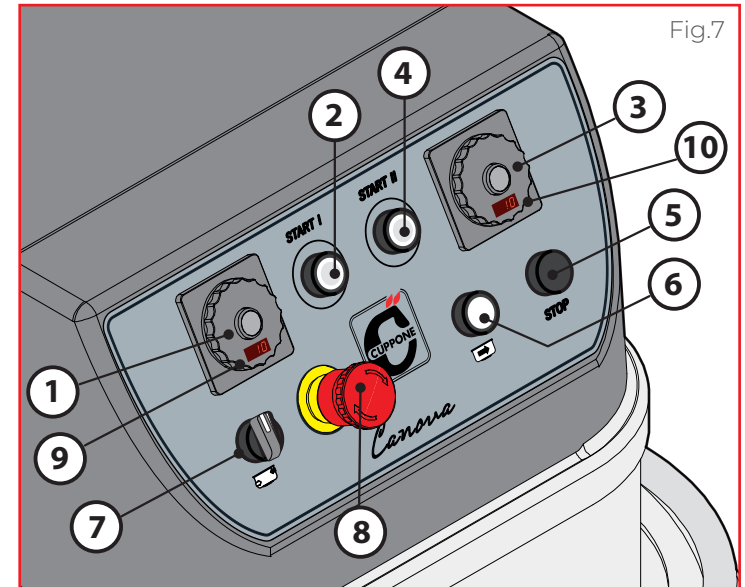

Fig.7
► Fig.7 Processing can start in one of the following ways: